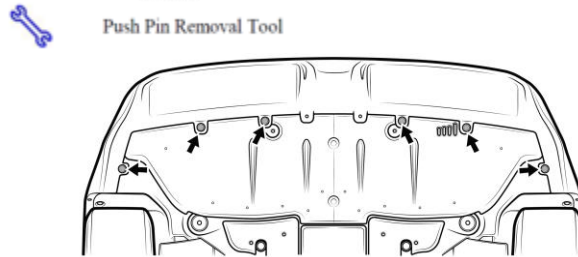

Fig 5-2
- (d) Remove 2 push pins (1 on LH, 1 on RH side) as show in red. (Fig. 5-2).
- (e) Remove 6 push pins from underneath vehicle (Fig. 5-2)